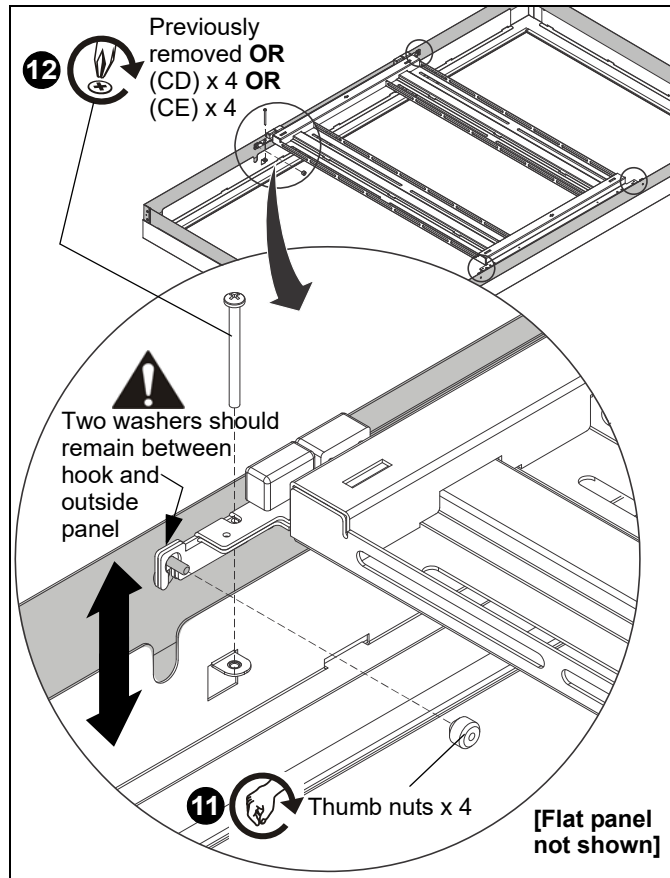

Figure 10
**NOTE:** The outer frame depth may be adjusted between 3-1/2" to 5-1/2" to make room for a variety of different flat panel thicknesses. (See Figure 10)
- The 4 Phillips screws removed in Step 1 can be replaced with four 10-24 x 2-3/4" Phillips screws (CD) **OR** four 10-24 x 3-1/2" Phillips screws (CE) for larger depth adjustments. (See Figure 10)
11. Tighten thumb nuts over threaded studs in four locations on the hinged frame. (See Figure 10)
12. Replace and fasten four Phillips screws which were removed in Step 1, **OR** replace the removed screws with four 10-24 x 2-3/4" Phillips head screws (CD), **OR** four 10-24 x 3-1/2" Phillips head screws (CE) to allow for a larger depth adjustment of the outer frame. (See Figure 10)